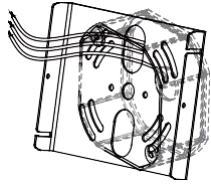

Figure 3
4. Feed the incoming power wires from the junction box through one of the slots in the mounting bracket, and then attach the mounting bracket to the junction box (see Figure 3).